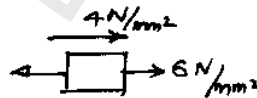

Fig. 5
- (b) Find the greatest length of a mild steel rod of $30 \text{ mm} \times 30 \text{ mm}$ which can be used as a compressive member with one end fixed and the other end hinged. It carries a working load of 40 kN. Factor of safety = 4, $\alpha = \frac{1}{7500}$ and $\sigma_c = 300 \text{ N/mm}^2$. Compare the result with Euler. $E = 2 \times 10^5 \text{ N/mm}^2$. (16)
14. (a) (i) Briefly explain spherical and deviator components of stress tensor. (6)
- (ii) Explain the importance of theories of failure. (4)
- (iii) For the state of stress shown in Fig. 5, find the principal plane and principal stress. (6)